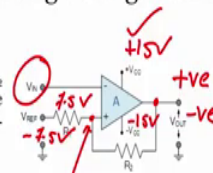

Figure 1
- The configuration is as shown in Figure 1 aside